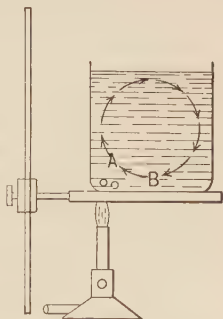

FIG. 23. — Convection currents in water.
18. Convection currents the result of expansion. One of the most important results of expansion is the creation of *convection currents*. Convection currents always occur when a *part* of a body of liquid or gas changes in density. We can easily make these currents visible. Let us drop a few crystals of potassium permanganate down the side of a beaker of water and place a Bunsen-burner flame directly under the crystals as in Fig. 23. The crystals slowly dissolve, and color the water. If the water about the crystals moves, we can see this movement because all the water passing over the crystals becomes colored. Immediately following the application of heat we see currents of water rising from the place where heat is applied. This stream of rising water broadens, moves across the top, and then sinks, as suggested by the arrows. After a time the colored water is thoroughly diffused, and since the colored water is the heated water, we may reason that the water in the entire vessel eventually becomes hot, chiefly through the movement of these convection currents.